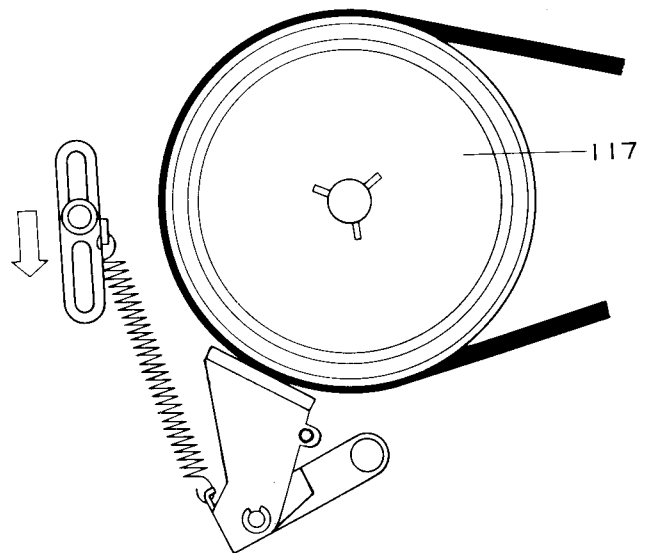

Fig. 12
*** TAKE-UP REEL SPINDLE (Refer to Fig. 12)**
- (1) Put 7-inch test reel on the take-up reel spindle.
- (2) Hook a tension gauge on the reel and pull it in the direction at right angle to the center of the reel.
- (3) If the set is normal, the tension is 810 ± 150 g.cm in clockwise and 135 ± 15 g.cm in counterclockwise.
- (4) If the tension is out of this range, adjust it as follows.
- 1) In case the value measured is lower than normal value, move the adjusting plate (067) in the opposite direction to the arrow in Fig. 12.
- 2) In case the value is higher than the normal value, move the adjusting plate (067) in the arrow direction as shown in Fig. 12.